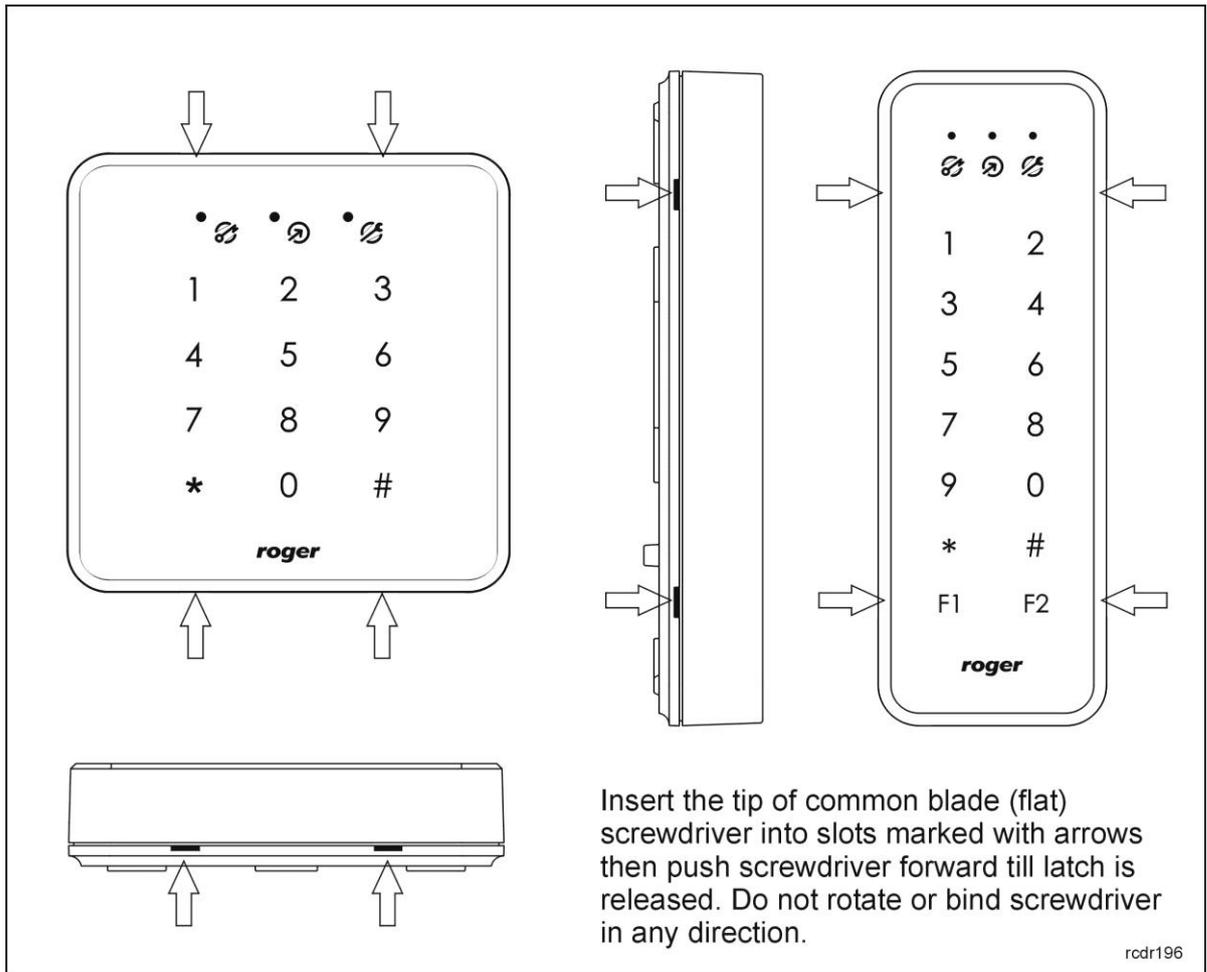

Fig. 6 PRT82MF/PRT84MF enclosure disassembly
- The reader enclosure consists of a front and rear panel. Before installation it is necessary to separate them by means of included key or flat screwdriver according to fig. 6.